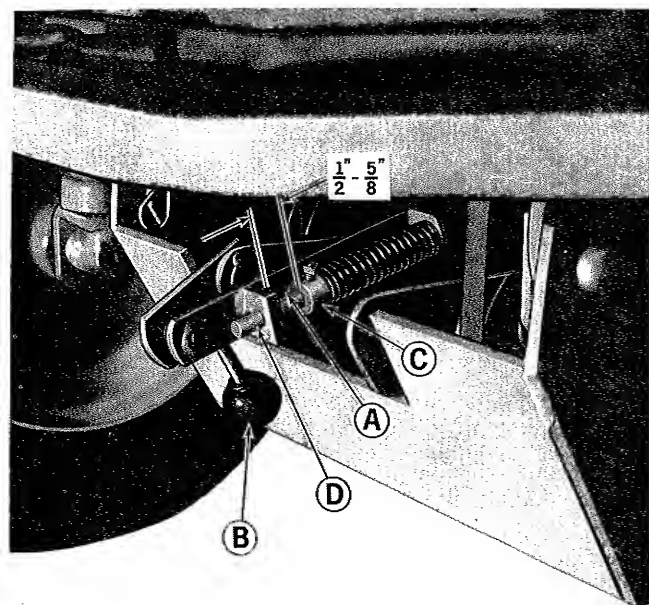

Figure 19. Belt tightening adjustment located on front hitch assembly.
See figure 19. Tension on the mower drive belt is checked by measuring distance (A). The distance should be 1/2" to 5/8" when the belt is properly installed and the belt tightening handle (B) is pushed down and back in the tightened position. If belt tension requires adjustment, proceed as follows:
1. See figure 19. Release tension on the drive belt by pulling forward and up on the belt tightening handle (B).
2. See figure 19. Loosen the screw in set collar (C), and pull rod (D) forward so more of it is exposed to increase belt tension or push the rod back to decrease belt tension.
3. Tighten the screw in set collar (C).
4. Tighten the belt and check the belt tension distance. (Figure 19, Item A).
- a. Pull the belt tightening handle (Figure 19, Item B) forward to release belt tension.
- Figure 19, Item A Rod and Guide